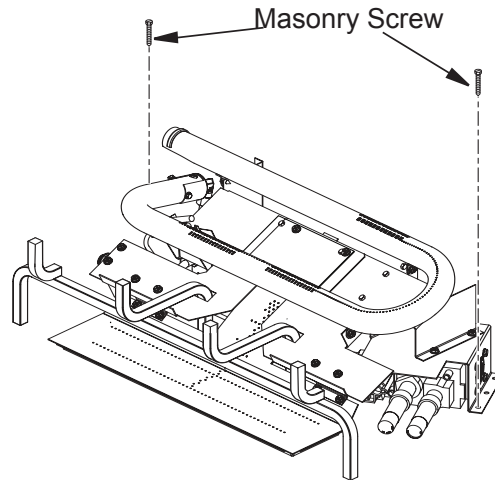

Figure 11 - Attaching Base to Fireplace Floor
3. Mark screw locations through holes in front panel of base (see Figure 11). If installing in a brick-bottom fireplace, mark screw locations in mortar joint of bricks.
6. Attach base, through holes in back side panels of base, to fireplace floor using masonry screws provided in hardware package (see Figure 11).